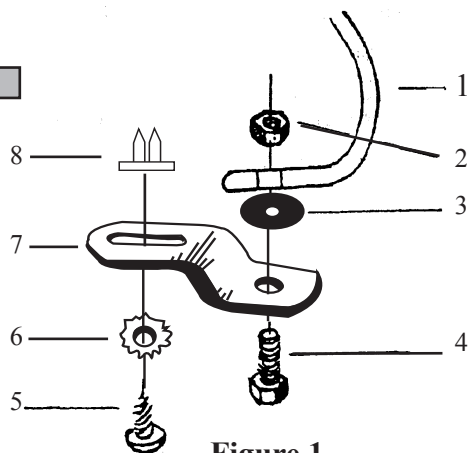

Figure 1
1. INSTALL BRACKETS Assemble the metal brackets to the Hood Guard as shown below. Make sure the rubber washer is between the metal bracket and the Hood Guard. Insert screw from the bottom up with the nut inside the Hood Guard flange (See Figure1). Finger tighten at this time.
5. **ATTACH HOOD GUARD WITH BRACKETS TO HOOD:** Start by attaching center bracket to hood with screw and star washer (See Fig. 1). Then follow by attaching the 2 inner brackets, and finally the 2 outside brackets.